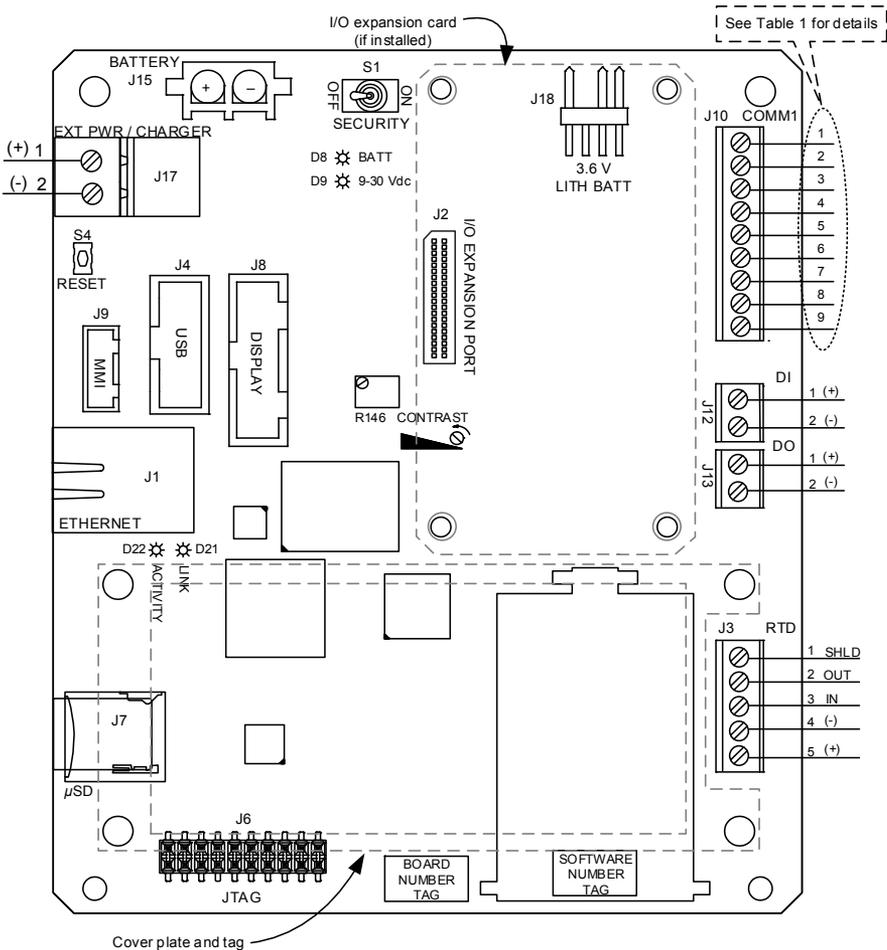
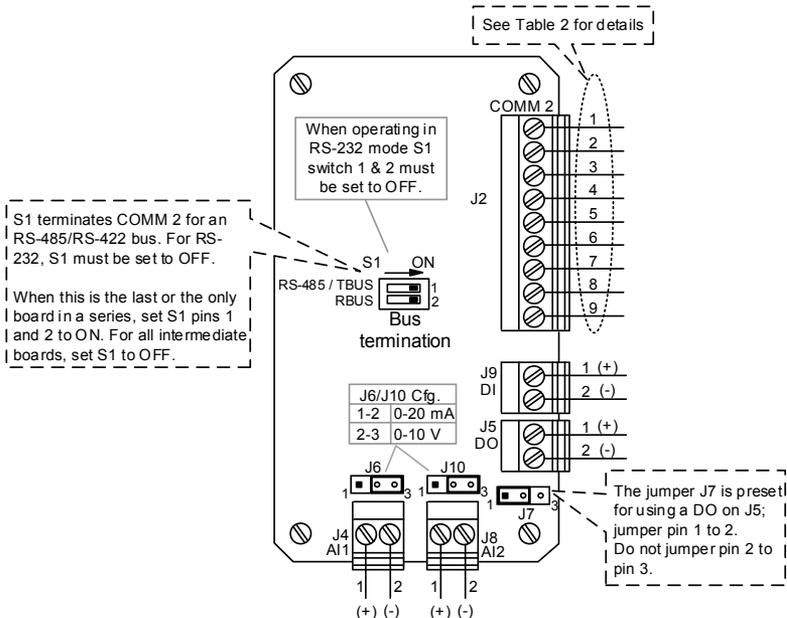

Figure 12: μ FLO^{G5} board, pinouts, and communication
Figure 13: I/O expansion board
Figure 12 represents the μ FLO^{G5} electronic board and identifies the terminal blocks, switches, and designated pinouts.
The I/O expansion board adds 1 software-selectable communication port (COMM 2), 2 AIs, 1 DI/PI, and 1 DO (Figure 13). The board installs onto the μ FLO⁶⁵ expansion port (J2) shown in Figure 12, page 19. Table 2 defines the pinouts for COMM 2.
1. Fit the I/O board connector (J1) onto the I/O expansion port (J2) on the main electronic board (Figure 12, page 19), but do not push down the board to seat.